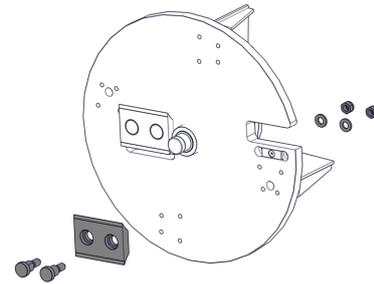

Figure 26 - Blade Mounting
14. Fit the blade to the rotor using the retaining bolts, washers and Nyloc nuts. The use of genuine Timberwolf blades and bolts is recommended (Figure 26).